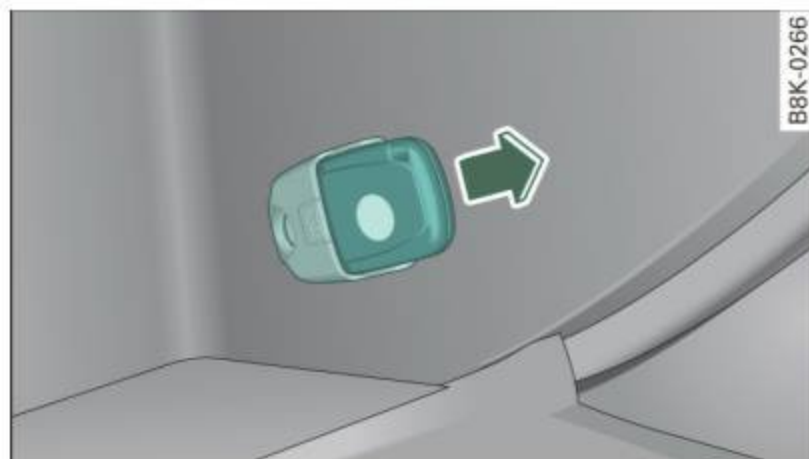

Fig. 31 Glove compartment: Adapter for emergency key
- Take the adapter for the emergency key out of the glove box ⇒ fig. 31.